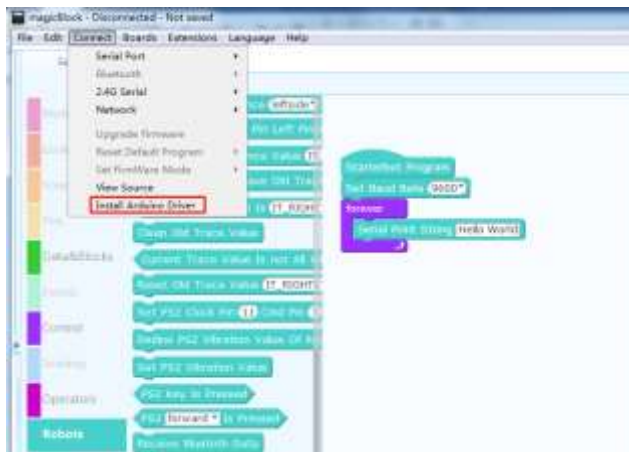

Figure 2-2-1
- 2) Install the driver of Hummer-bot Master Control Board, click "Connect to Install Arduino Driver" as shown in Figure 2-2-1, and click "Install" as shown in Figure 2-2-1.